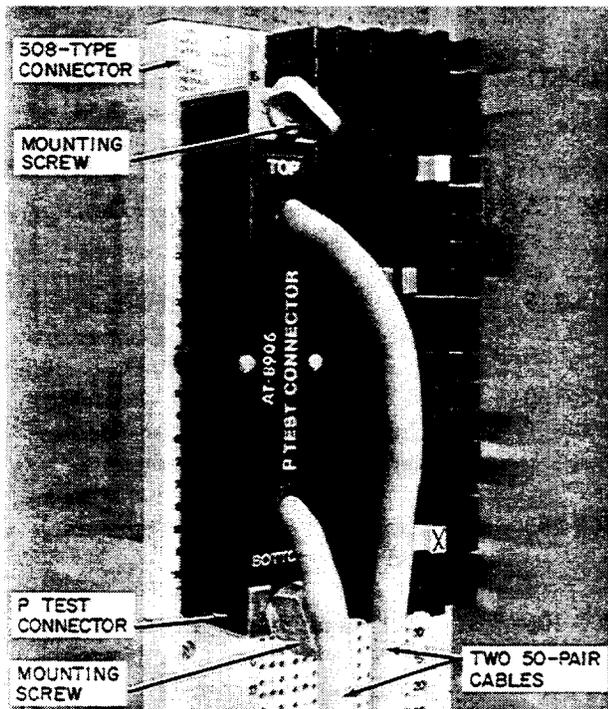

Figure 21—P Test Connector (AT-8906) Mounted on a 308-Type Connector
5.06 The P test connector (Figure 21) is a 100-pair test connector that is used for making multiple pair cable tests on the 308-type connectors.